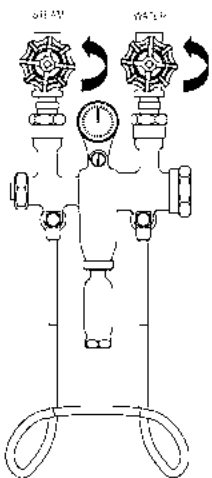

Figure 2: Turn control valves counter clockwise to turn M-5000TGTG/M-5700TGTG on.
2. Turn on the cold water valve, located on the right side of the unit, counter clockwise. (see Fig. 2)